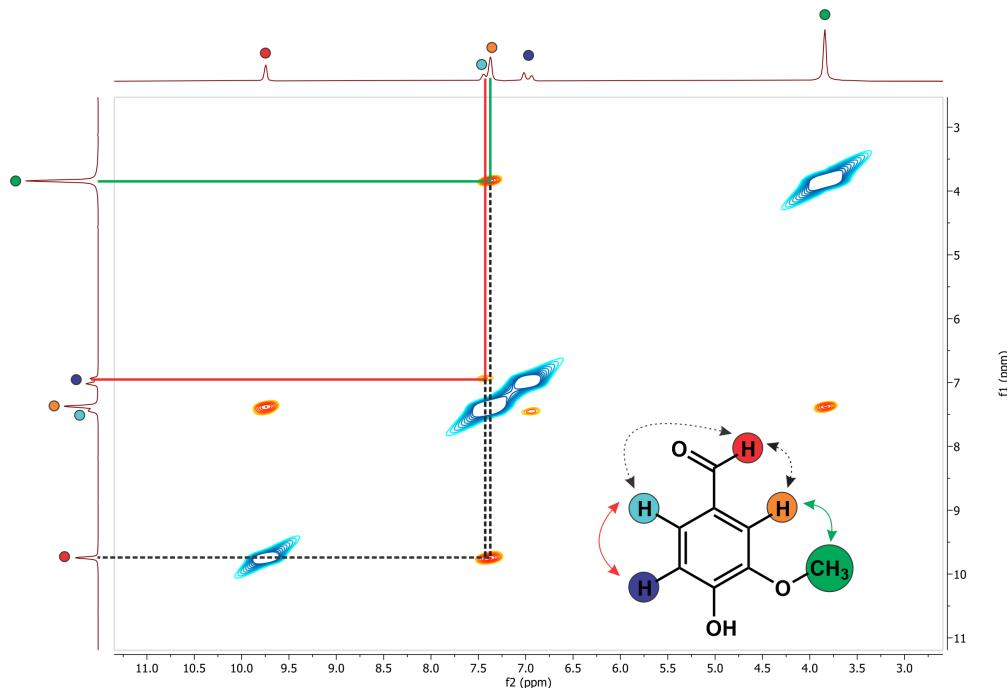

Figure 9.11: Example NOESY spectrum.
- We have two identical  $^1\text{H}$  NMR experiments on the top and left sides of Figure 9.11. All of the peaks are labeled by the hydrogen(s) to which they correspond.